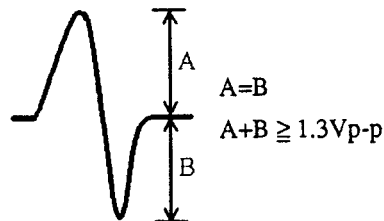

Fig. 8
3. When the TRACK FWD  key is pressed while observing the oscilloscope screen, the waveform shown in Fig. 8 can be observed instantaneously. Confirm that the amplitude in this state is 1.3 Vp-p or more and that the amplitude is nearly equal on positive and negative sides. Since the waveform appears only instantaneously when the TRACK FWD  key is pressed, repeat pressing this key until confirmation of the waveform is completed.